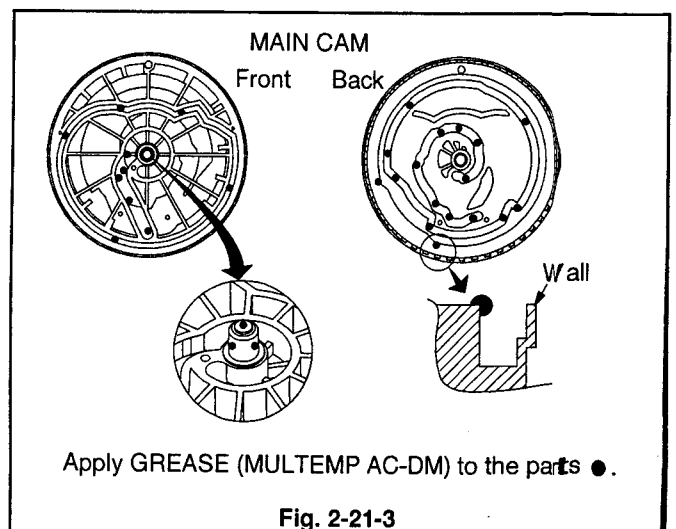

Fig. 2-21-3
5. Apply GREASE (MULTEMP AC-DM)[859D055O90] to the points on the new MAIN CAM specified in the Fig. 2-21-3.
Be careful that GREASE does not adhere on the Wall when applying GREASE to the most external circle on the back of the MAIN CAM (4 parts) shown in the Fig. 2-21-3.